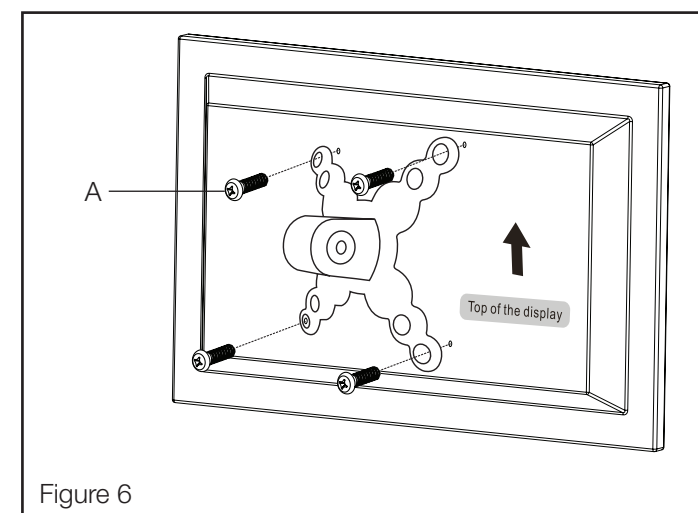

Figure 6
4. Once the bolts have been identified, gently put your TV Wall Mount on the back of the TV so that the mounting holes are showing the TV Wall Mount. Insert the bolts through the TV Wall Mount and mounting pattern holes of the TV (see Figure 6).